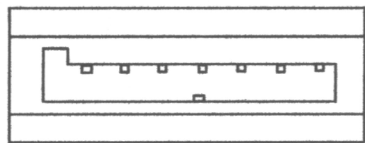

Figure 6A: Original L-shaped SATA connector
- *The original Serial ATA connectors have an L-shaped opening, see Figure 6A.*